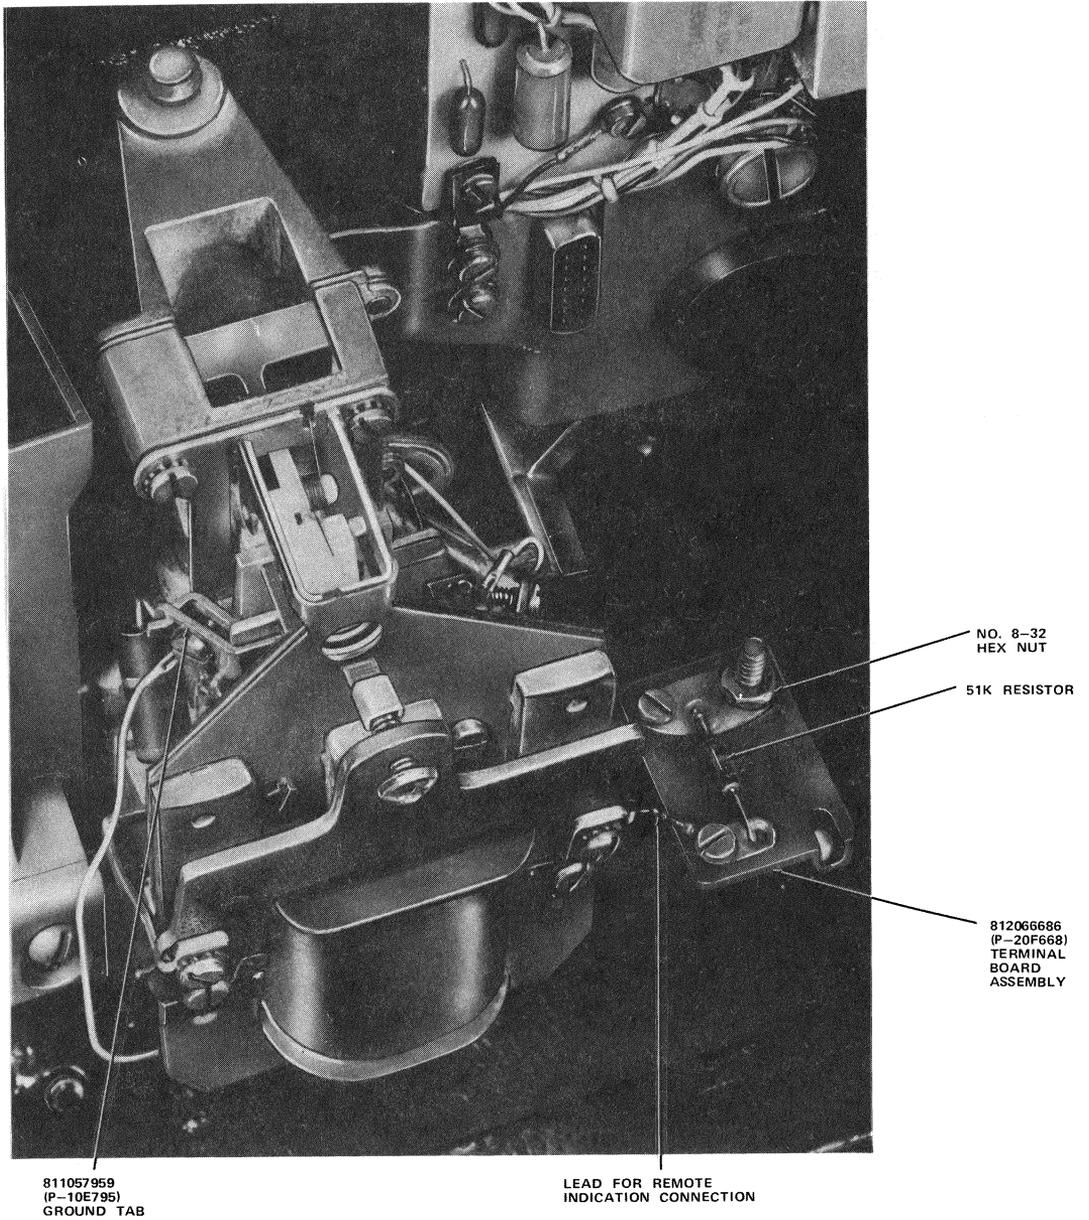

Fig. 8—Installation of Terminal Board Assembly
- (4) Using the 1/4-inch drill described in paragraph 3.01, drill the hole through the housing.
- (5) Remove the screw and drilling template.
- (6) Using the 1/4-inch drill, enlarge the hole where the screw was removed.
- (7) Using a suitable file, remove all burrs from the 1B rail.
- (8) Remove the C-clamp.
- (9) Remove all drill chips from the telephone set.
- (10) Position the insulation strip against the 1B rail with the boss on the strip in the 1/4-inch mounting screw hole (Fig. 7). Hold the contact springs in place with the stud extending through the hole drilled in the base, and fasten the terminal board in place on the housing base with the nut and lockwasher provided (Fig. 8).
the hole drilled in the base, and fasten the terminal board in place on the housing base with the nut and blockwasher provided (Fig. 8).
relay (Fig. 8). Care must be taken not to alter the adjustment of the coin relay by bending the spring member. Connect the spade tip of the lead to the front terminal on the terminal board.